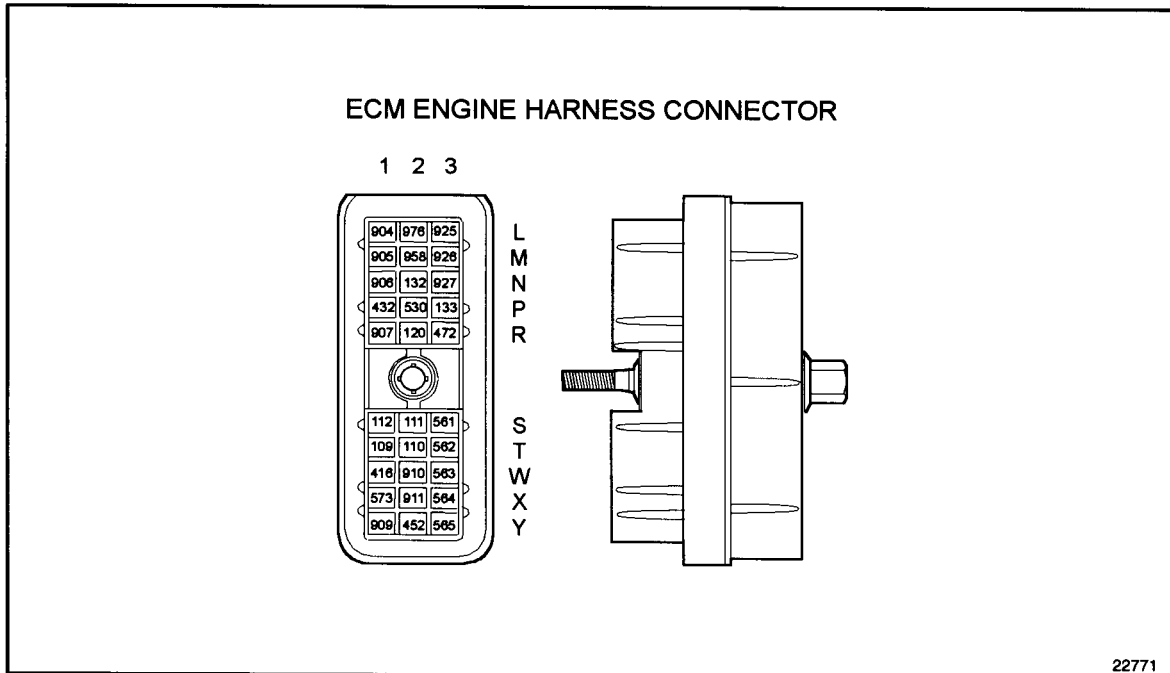

Figure 15-7 ECM Engine Harness Connector
1. Check terminals at the ECM engine harness connector (both ECM and harness side) for damage: bent, corroded and unseated pins or sockets. Check terminals P3 and Y2 of the ECM connector. See Figure 15-7.